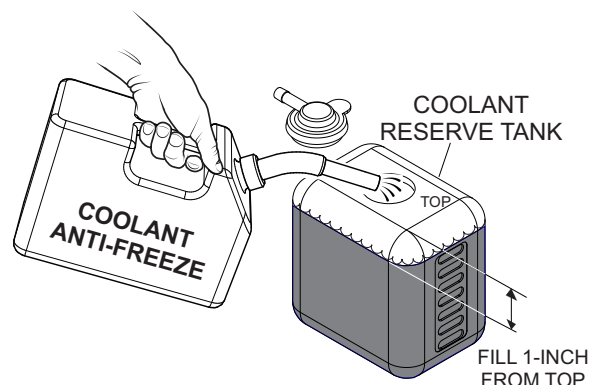

Figure 45. Coolant Reserve Tank
5. Fill radiator and coolant reserve tank (Figure 45) with recommended coolant as listed in Table 7. Fill reserve tank to approximately 1 inch below the top of the tank.